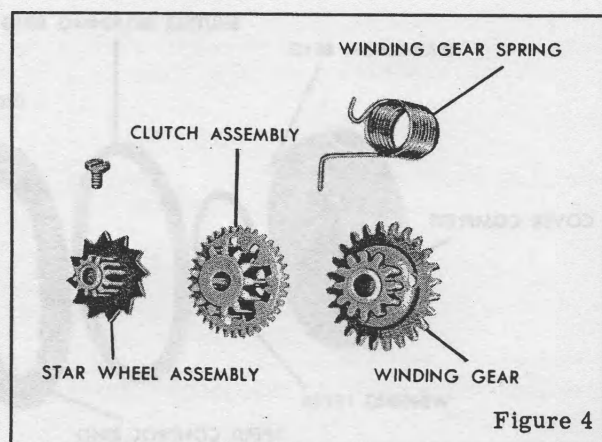

Figure 4
3. Winding lever, with the sixth or seventh tooth from the left meshed with the WINDING GEAR, figure 4. Place the WINDING GEAR SPRING in tension by giving two and one-quarter strokes to the winding lever, lifting and replacing the lever after the first and second strokes. This should be the
5. WINDING GEAR, figure 4, and the WINDING GEAR SPRING.